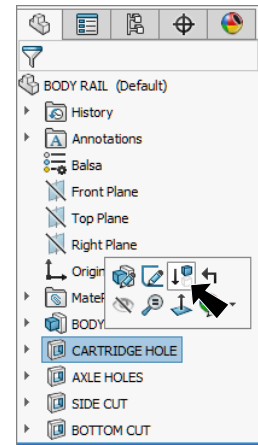

Fig. 24
Step 1. Click **CARTRIDGE HOLE** feature in the Feature Manager and click **Suppress**  in the context toolbar, **Fig. 24**.